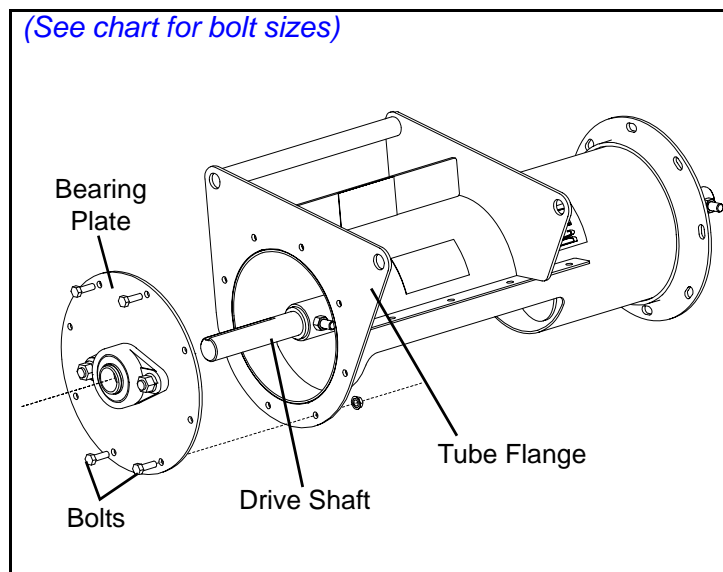

Figure 4D
3. Only Secure with UPPER and LOWER four (4) bolts. *See Figure 4D* The other four (4) bolts will be installed later with the Belt Guard Mounting Brackets.